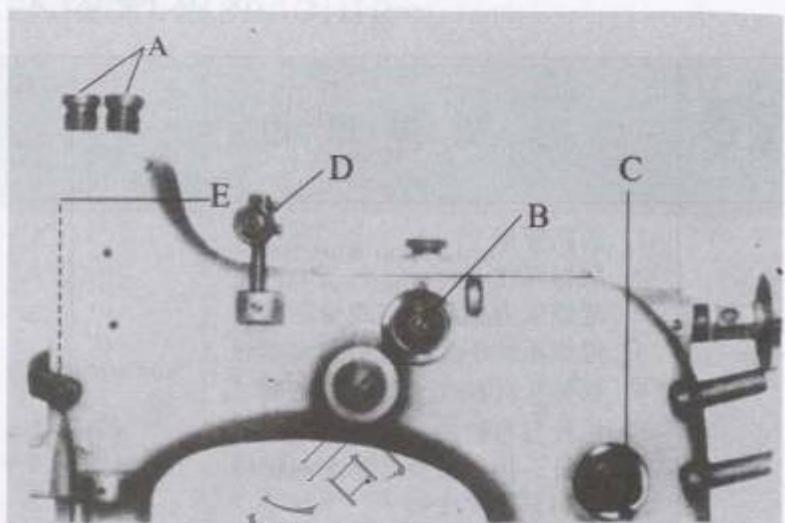

图10 Fig.10
压脚压力的大小，取决于缝料的厚度，缝薄料时顺减少压力；反之，则增大压力。当缝料推送顺畅，针迹均匀时切勿再增大压力，以缓减机件磨损。调节压力时旋进两只调压螺套（图10，A）可增大压力，施出则减少压力。
缝线张力由夹线器(图10, B、C)调节，通常面线(B)张力要比底线(C)的张力大。旋进夹线器螺母(B、C)使张力增大，旋出则减少。
Thread tension is adjusted by thread tension assembly(B, C, Fig. 10). Tension of upper thread(B) is generally stronger than that of lower thread(C). Turn thread tensioner nut (B, C) in to increase the tension, turn it out to decrease the tension. If the stitch is still not good, should adjust the height of thread adjusting bar (D). The height of the thread adjusting bar (D) is at the same level with the thread eye of the needle bar connection at its highest position.